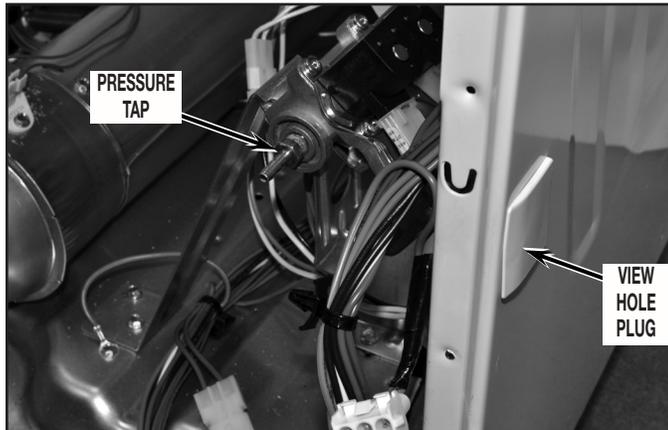

FIGURE 2
2. Insert pressure tap and finger-tighten. Remove view hole plug from side panel. See *Figure 2*.